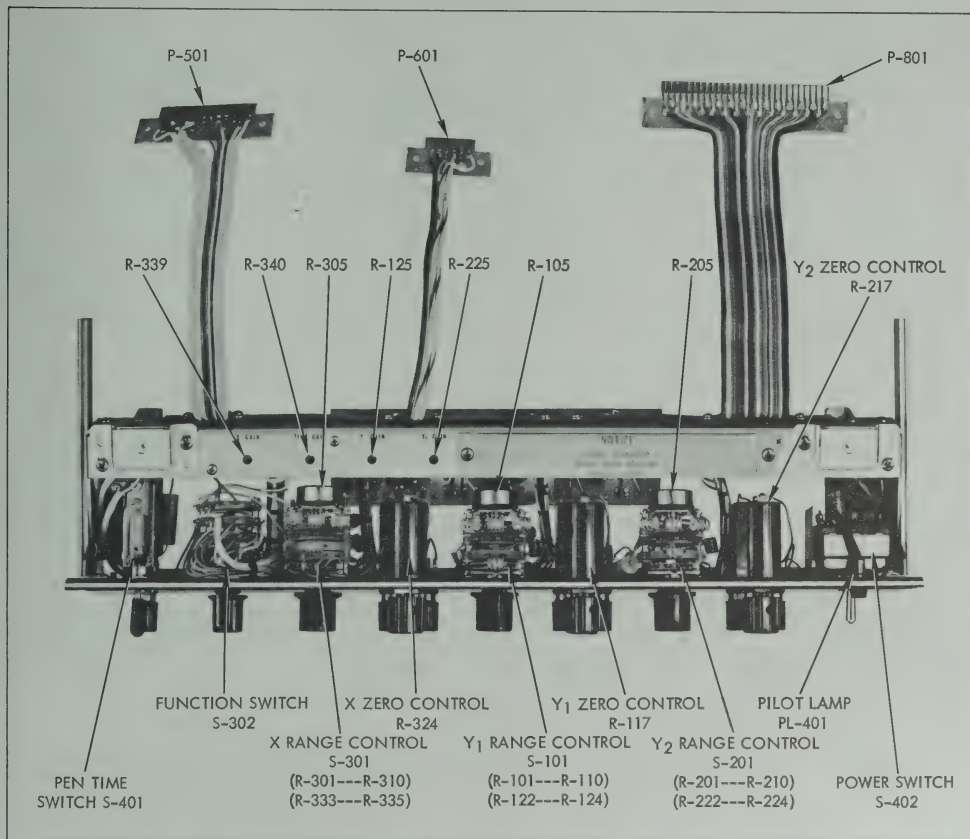

FIGURE 5-2. CONTROL BOX (TOP VIEW)
c. Moderately accurate overall timing calibration may be accomplished by adjusting three potentiometers on the top of the control box (see figure 5-2).
(1) DC calibrate and adjust TIME-GAIN control R-340.
(2) Adjust R-320 (HI) for simultaneous control of first two sweeps.
(3) Adjust R-321 (LO) for simultaneous control of last three sweeps.